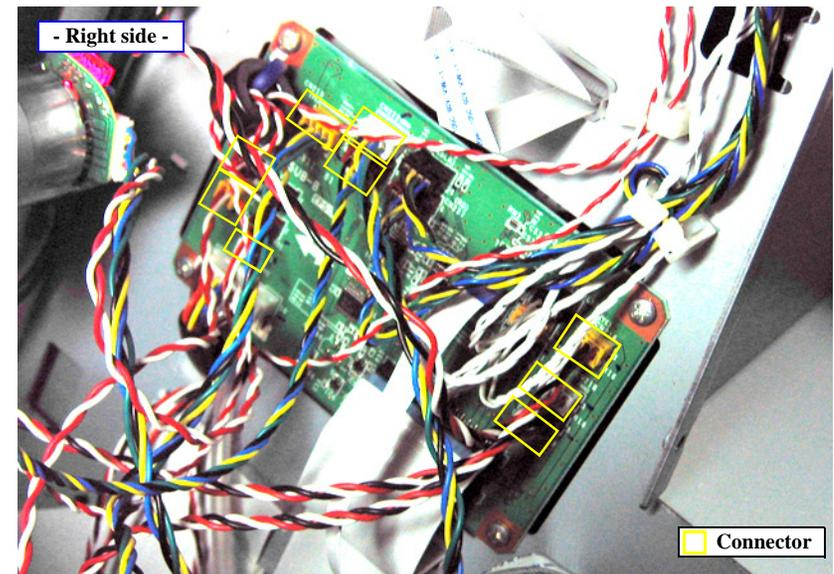

Figure 4-108. Disconnecting the connectors
8. Disconnect the connectors (CN213, CN214, CN216, CN217, CN218, CN221, CN222, CN223, CN224) on the Sub Board Assy; B shown in Figure 4-108. (See Figure 4-54 for the connector locations.)